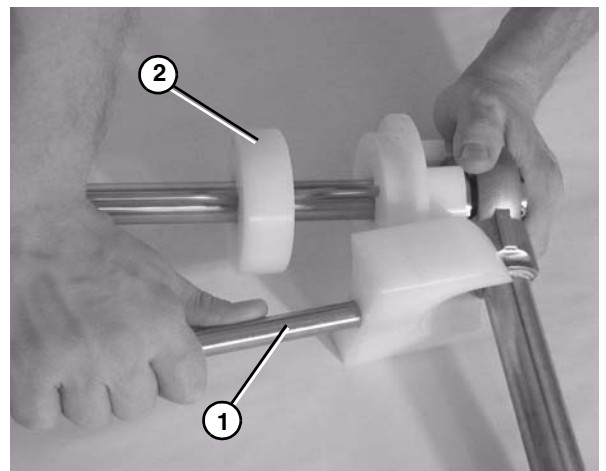

Figure 70
- Remove the guard bar (**Figure 70, item 1**).
- Remove the pucks (**Figure 70, item 2**).